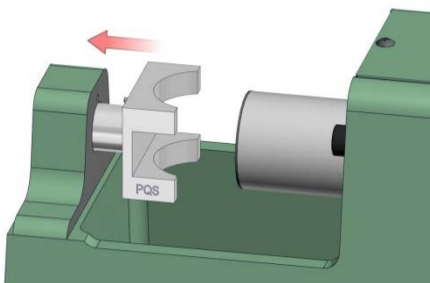

Figure 5.3.2
1. Install the two Twin-Transverse Shear Clamps by first, aligning each of the pins located on the back side of the clamps with the holes located on the Base and Hydraulic Piston of the Universal Strength Machine. Then, gently slide the 24 mm attachment onto the base (left) and 15 mm attachment onto the Hydraulic Piston (right). See Figure 5.3.2 below for installation process.